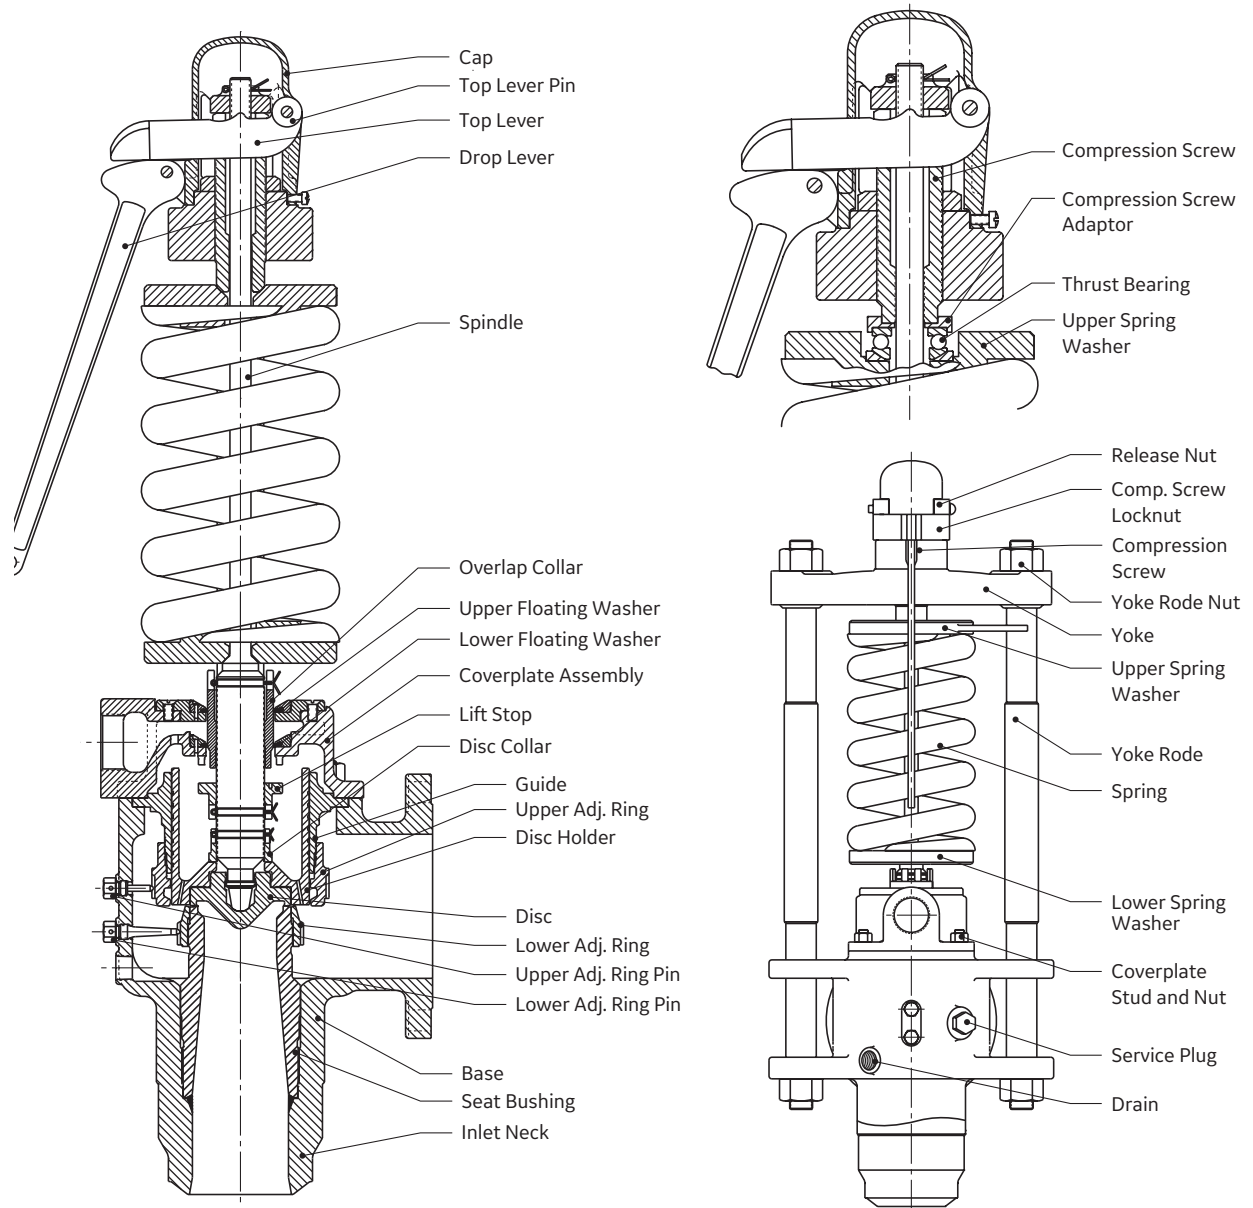

Figure 37: Hydroplug
Refer to Figure 37 on Section XVIII.B. Remove top lever pin and top lever then loosen the cap screw. Remove cap and drop lever as an assembly. The release nut is fixed to the spindle by means of a cotter pin. Note that the release nut does not quite engage top of compression screw.
3. Always be certain that all parts are clean and free of dirt and foreign material. Dirt trapped on seating surfaces or in the inlet, when the valve is reassembled, will damage the seats. Reassemble the valve as outlined in Section XV of this manual. The lug on the top spring washer should be on the left side of the valve when facing in the same direction as the outlet. (See Figure 37.)
5. Remove the top lever from the cap, and reassemble in position in accordance with Figure 37. If properly positioned, the top lever should have .125" (3.175 mm) of vertical movement prior to engaging bottom surface of release nut. The valve is now ready for the initial field test, on steam, to check valve set point and blowdown.